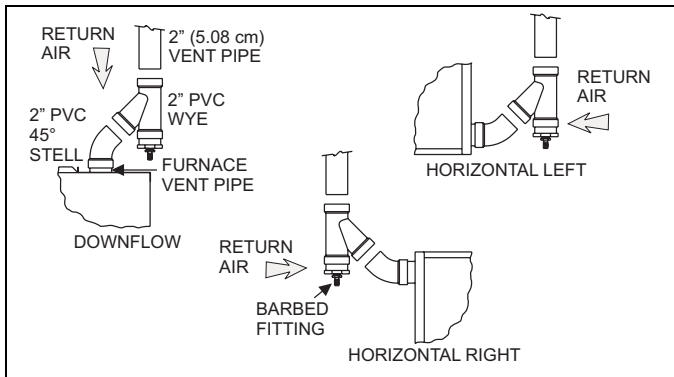

FIGURE 18: Downflow/Horizontal Vent Assembly
1. Place the 2" (5.08 cm) 45° PVC street elbow on the vent connection shown in Figure 18.
2. Place the 2" (5.08 cm) PVC WYE ("Y") assembly on the 2" (5.08 cm) 45° PVC street elbow as shown in Figure 18.
4. Slide the hose through the hole in the top cover, and insert the hose on to the barbed fitting on the bottom of the 2" (5.08 cm) PVC WYE ("Y") assembly as shown in Figure 18.